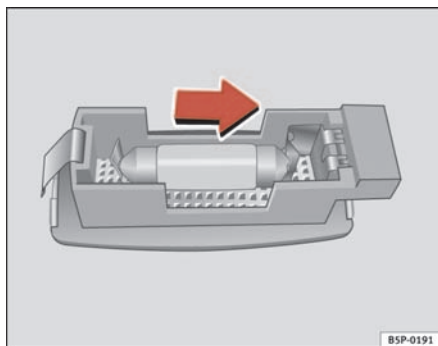

Fig. 192 Removing sunroof light
- Carefully remove the lamp, using the flat side of the screwdriver, as shown in the figure. ⇒ fig. 192.
- Remove the lamp, moving it in the direction of the arrow and outwards. ⇒ fig. 192 ■